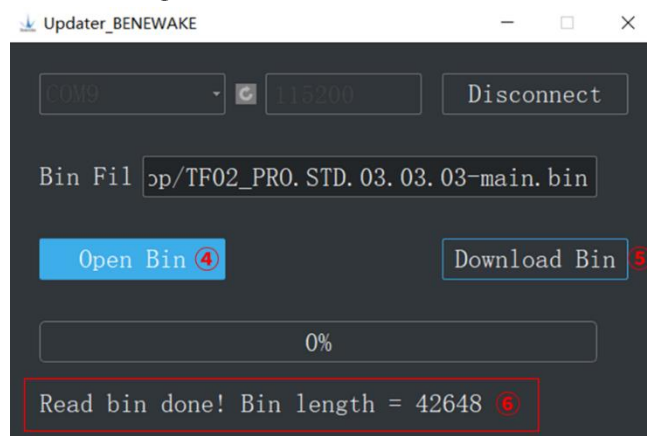

Figure 6-2 Upload firmware file
- 2) Click “④ Open Bin” to choose the updating firmware, the message “⑥Read bin done” will be displayed after the file is uploaded. Then click “⑤ Download Bin” to start upgrading. As shown in Figure 6-2.